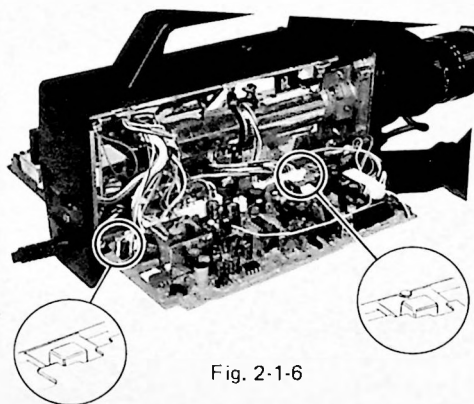

Fig. 2-1-6
- Hook both PCBs onto the PCB holding edges of the chassis to fix both PCBs firmly. (Fig. 2-1-6)